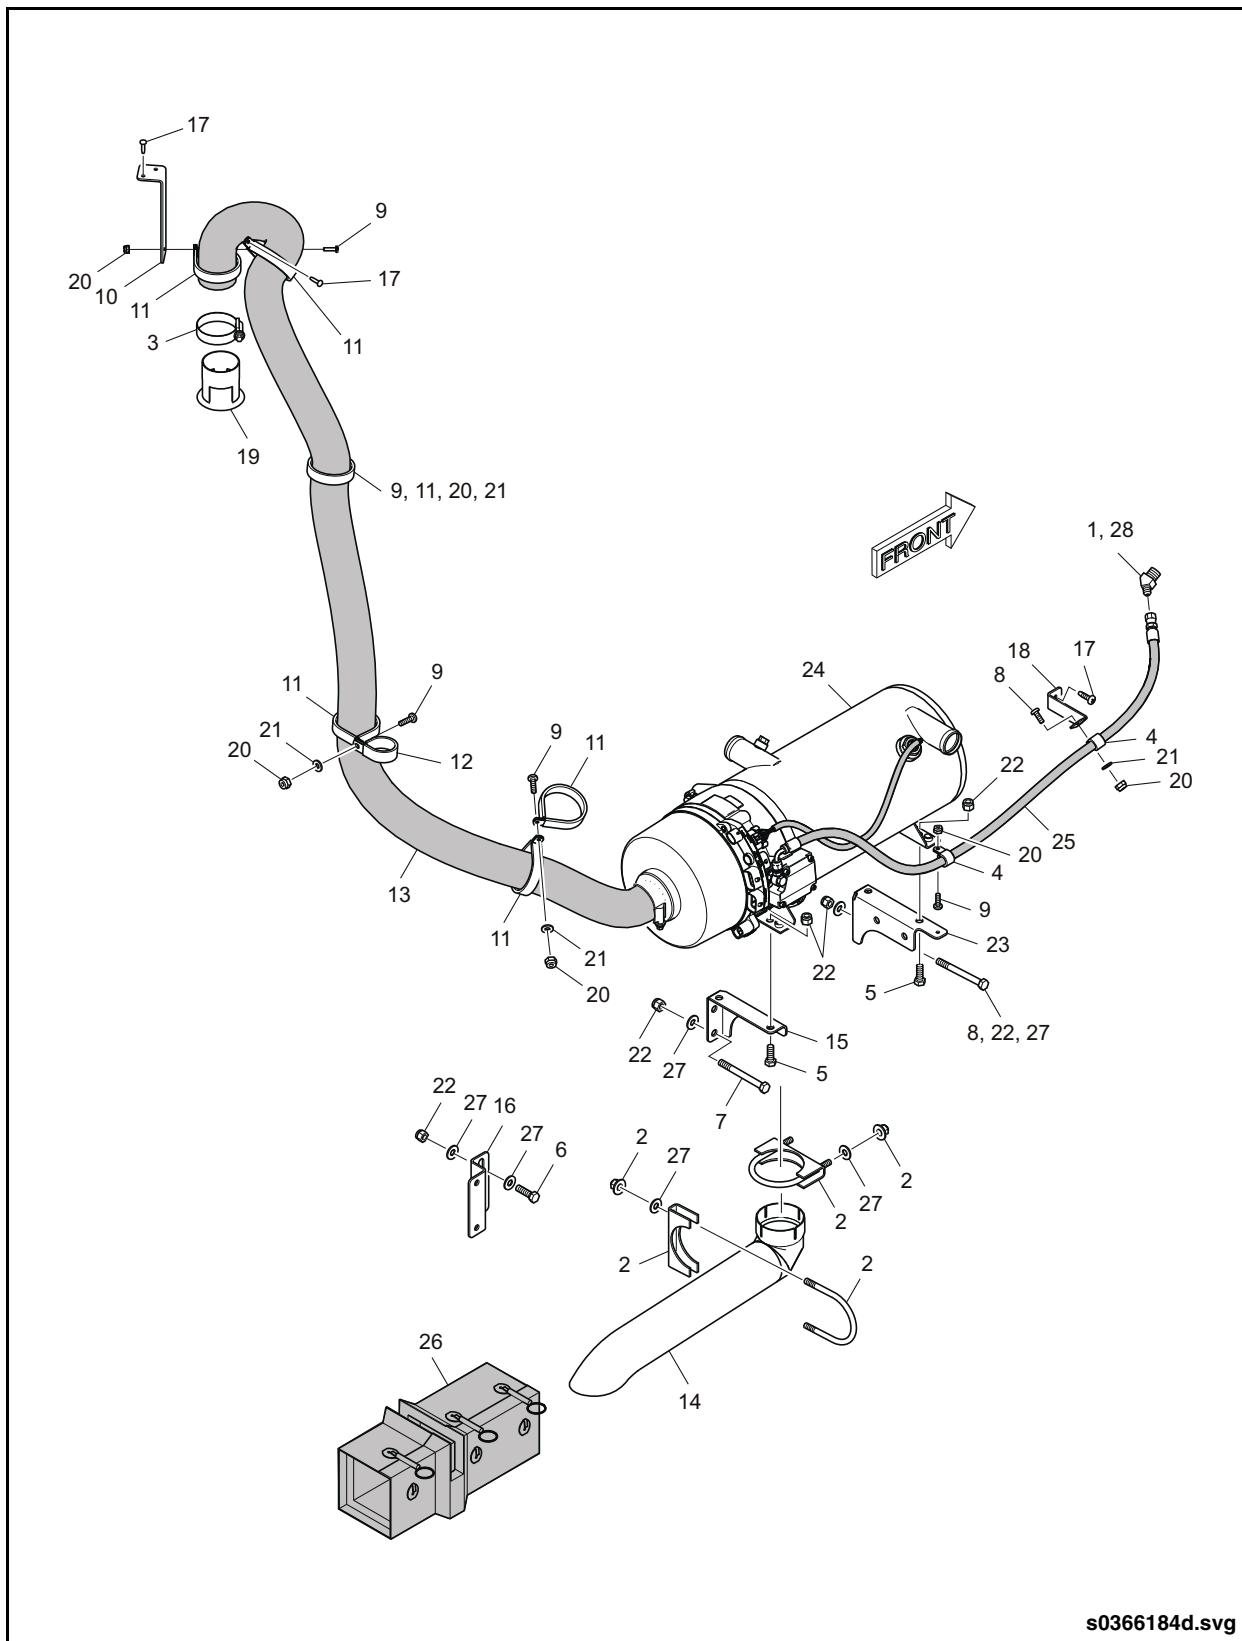

Fig. 10-13: Auxiliary Coolant Heater Installation
3. Remove support brackets from cradle as required for access. See "Fig. 10-13: Auxiliary Coolant Heater Installation" on page 42.